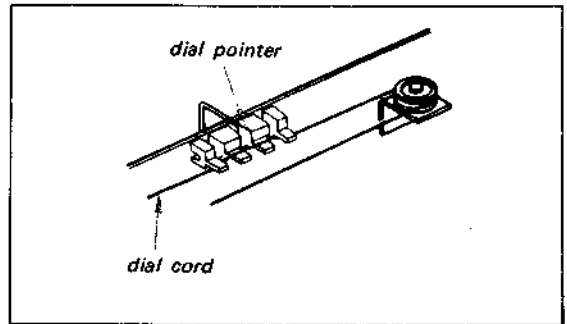
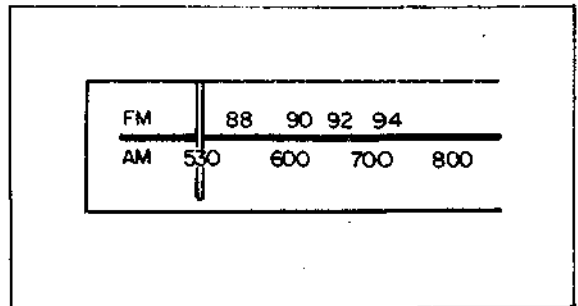

Fig. 2-11. Dial pointer installation
Fig. 2-12. Mechanical dial calibration
1. Put the dial pointer on the cord as shown in Fig. 2-11, and move it to a position where the pointer coincides with the 530 kHz mark on the dial scale in the front subchassis as shown in Fig. 2-12, when the tuning capacitor is set to the maximum capacitance position.